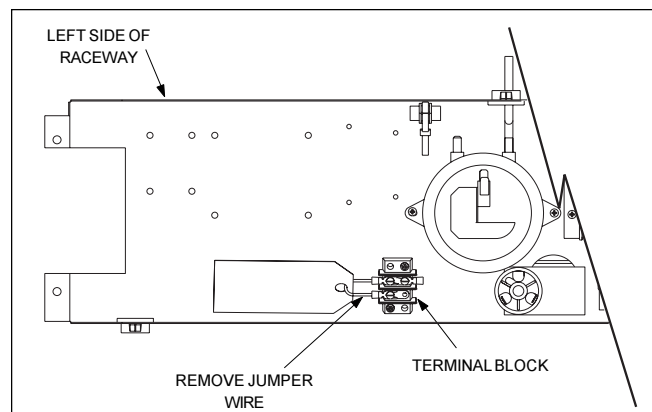

Figure 21. Remove Jumper from Terminal Block
To install a time clock auxiliary switch into the heater circuit, follow these instructions (see Figure 21):
4. Remove the factory installed jumper wire and tag from the terminal strip (see Figure 21).
An interrupt (on/off) type remote can be connected by removing the jumper wire on the terminal block located in the control compartment (see Figure 21) and connecting the two wires from the remote to the two terminals on the terminal block. This type of remote control will turn the heater on or off, but will not perform any other function.